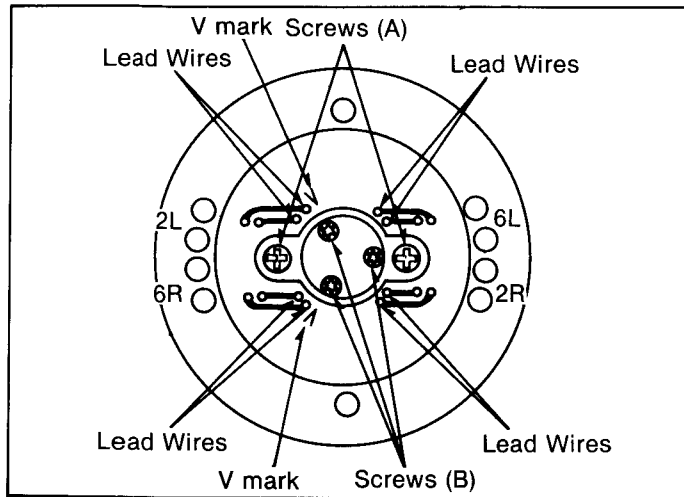
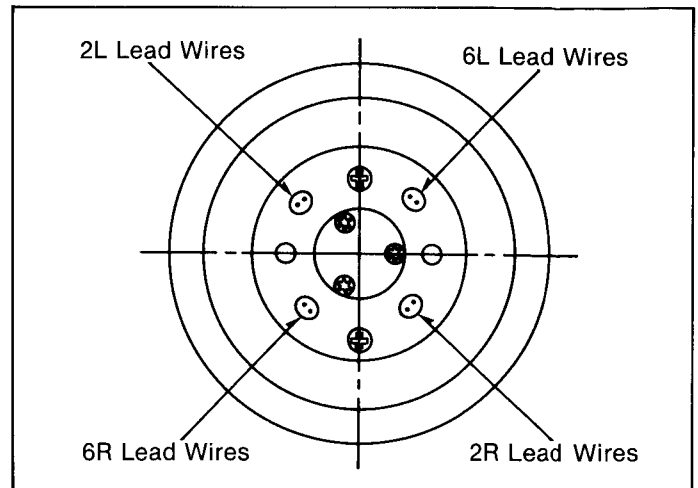

Fig. M17 Replacement of Upper Cylinder Unit-(1)
Fig. M19 Replacement of Upper Cylinder Unit-(3)
4. Install new unit carefully so that the 8 lead wires are properly matched on the Head Relay Board. For details on the installation position, refer to Fig. M17 and Fig. M19.